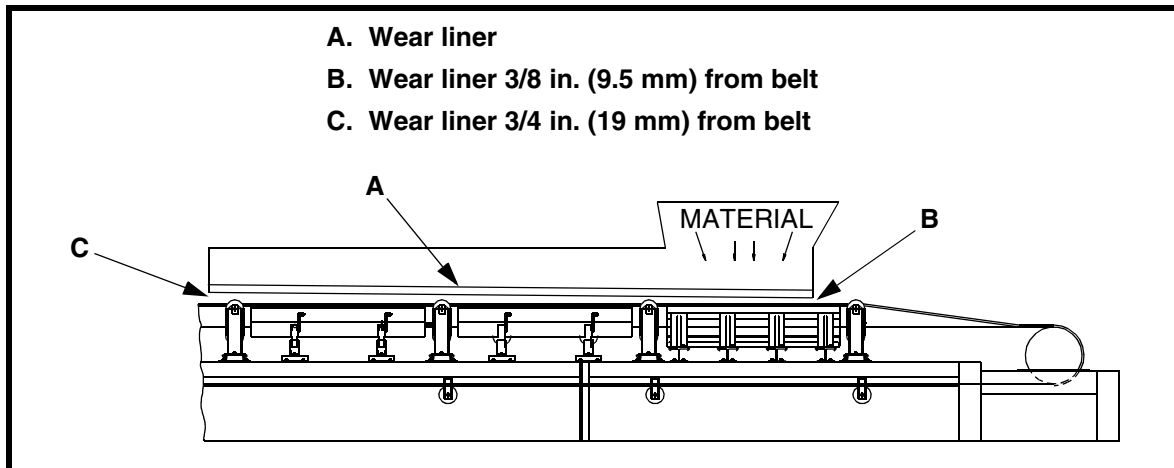

Figure 1. Locating Chute Wall and Wear Liner
1. Make sure wear liner (A, Figure 1) is 3/8 in. (9.5 mm) from belt at transfer point entry (B), and gradually increases to 3/4 in. (19.1 mm) at transfer point exit (C).